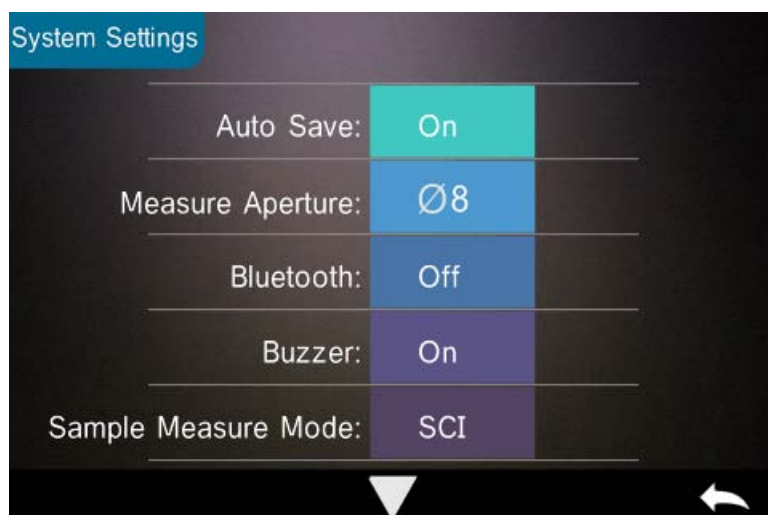
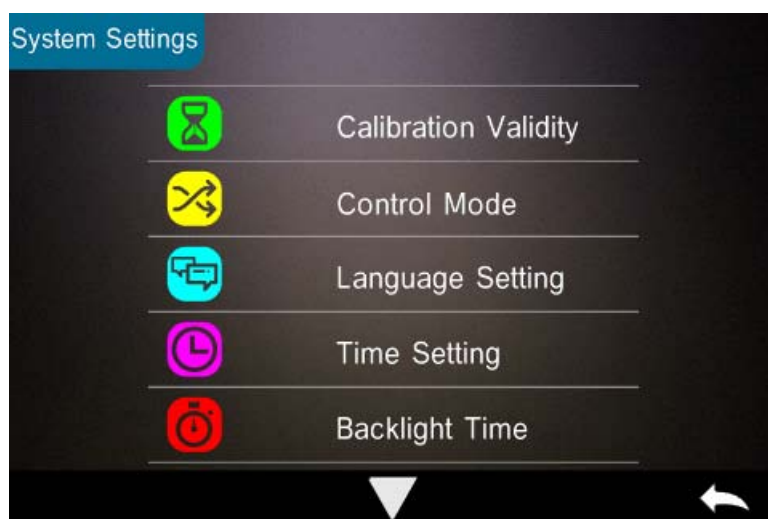
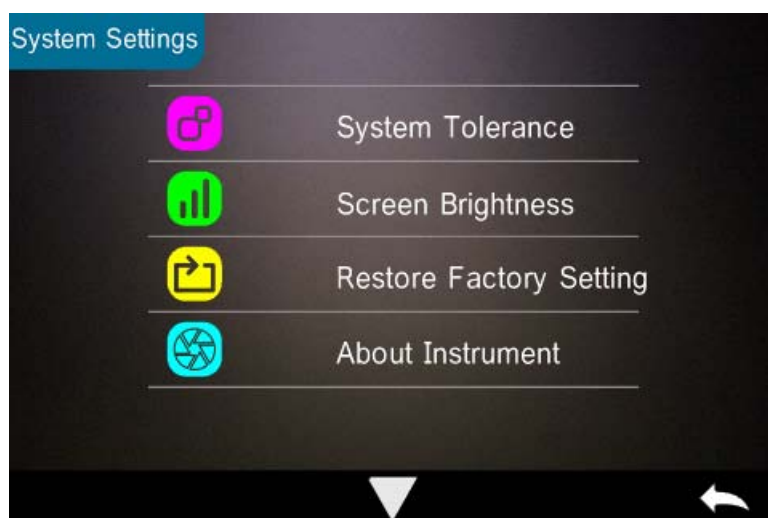

Figure 44 System Settings
Figure 45 System Settings
Figure 46 System Settings
In the main menu, click “System Setting” as shown in Figure 44, Figure 45 and Figure 46.
Step 3: Switch the default system measurement aperture to correspond with the actual measurement aperture. As shown in Figure 44, the current measurement aperture is  $\Phi 8\text{mm}$ . After switching the measurement aperture, you have to re-calibrate the instrument according to part 2.2.